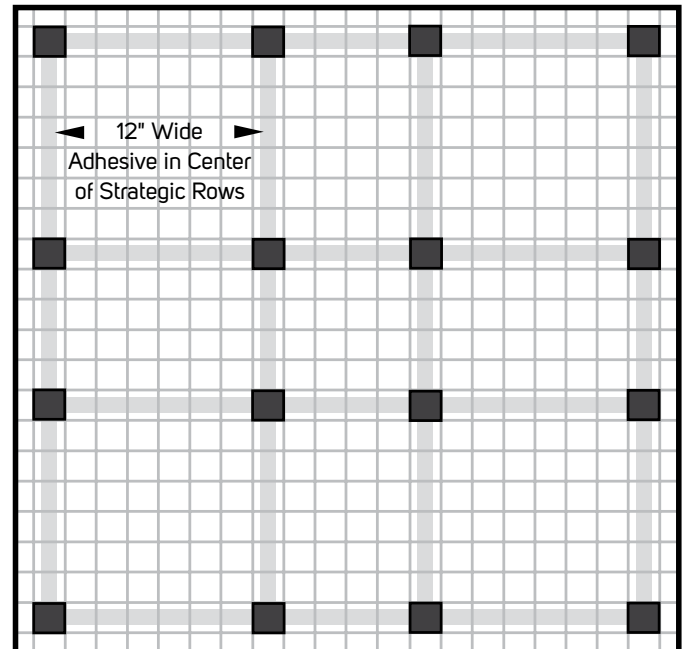

Fig. 5
- a) Begin by trowelling the factory supplied adhesive in a continuous 12" wide strip through the center of the grid lines where the strategic tile rows will be placed (**Fig. 5**). The outer 6" edge of each tile must not be adhered at this point in the installation in order to allow compression of these tiles during the next installation step. The outer 6" of each tile will receive adhesive during the installation of the field tiles.